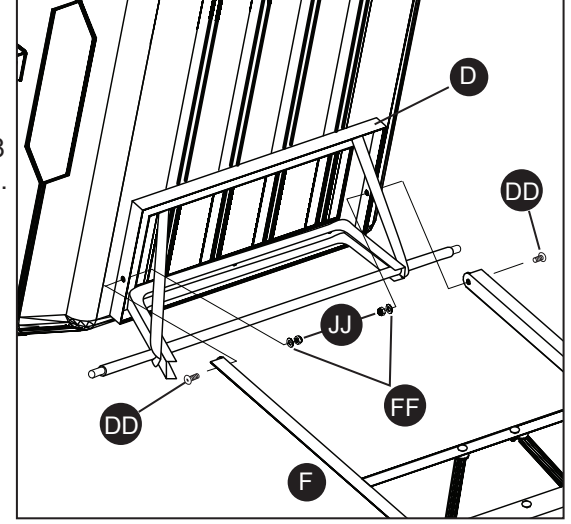

Fig. 8
6. Attach the rear frame (D) to the front frame (F) using two internal button head bolts (DD), two M8 lock nuts (JJ), and two M8 washers (FF), as shown in Fig. 8.